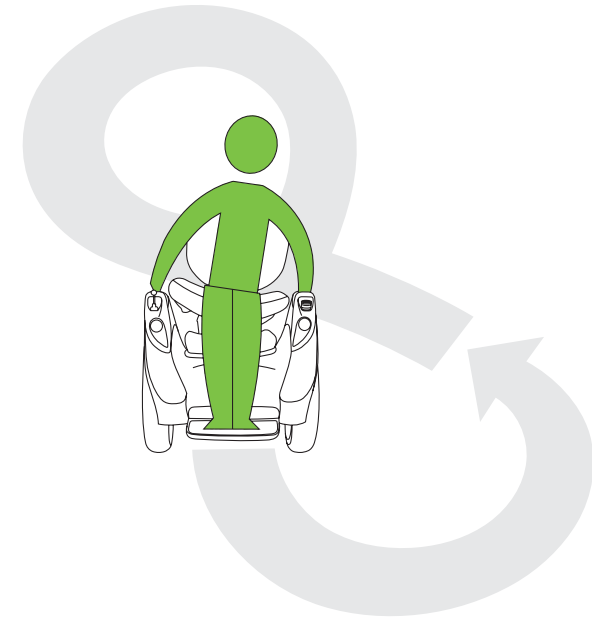

Figure 29: Directional riding with ASC in figure 8 patterns.
8. Ride in circles and then figure 8 patterns of approximately 2m (6.5ft) in a controlled and purposeful manner (**Figure 29**)